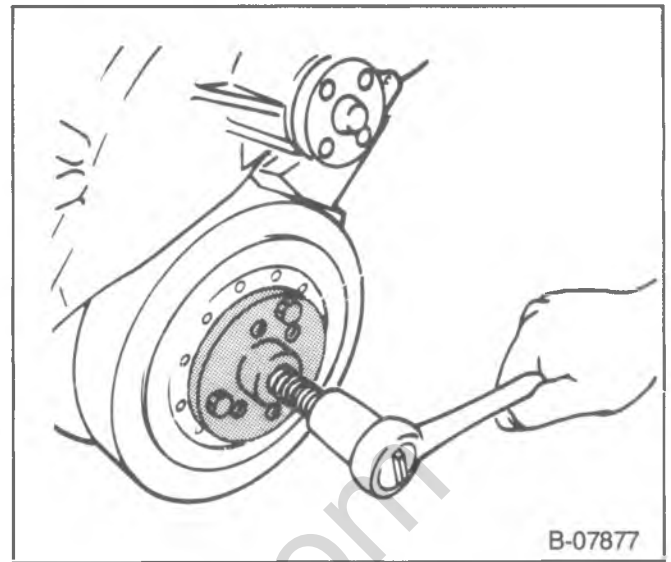

Figure 16—Removing the Torsional Damper
Remove or Disconnect (Figure 16)
5. Torsional damper. Use J-23523-E (figure 16).